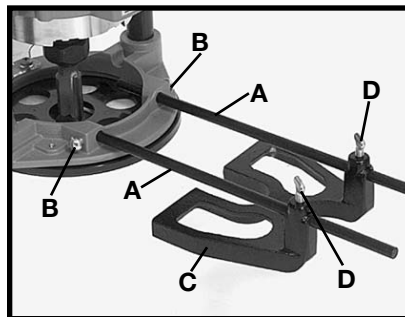

Fig. 9
To assemble, insert guide rods (A) in holes in base, Fig. 9, and secure with screws (B). The guide (C) is adjusted on the rods and secured in desired position with thumb screws (D).